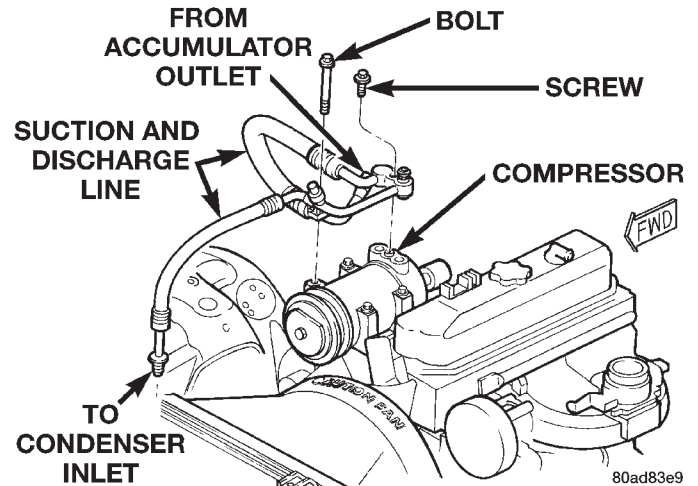

Fig. 16 Suction and Discharge Line Remove/Install - Typical
(1) Disconnect and isolate the battery negative cable.
(2) Recover the refrigerant from the refrigerant system. See Refrigerant Recovery in this group for the procedures.
(3) Unplug the wire harness connector from the high pressure cut-off switch.
(4) Remove the bolt that secures the discharge line support bracket to the compressor (Fig. 16).
(5) Disconnect the discharge line refrigerant line fitting from the condenser inlet tube. See Refrigerant Line Coupler in this group for the procedures. Install